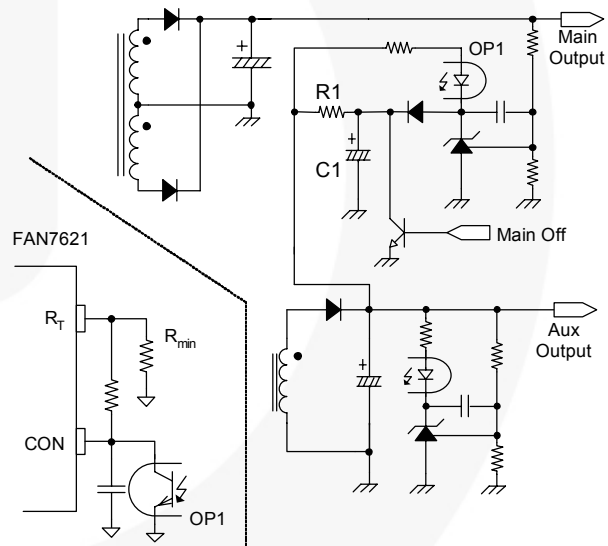

Figure 23. Remote On / Off Circuit
**Remote On / Off:** When an auxiliary power supply is used for standby, the main power stage using FAN7621 can be shut down by pulling down the control pin voltage, as shown in Figure 23. R1 and C1 are used to ensure soft-start when switching resumes.